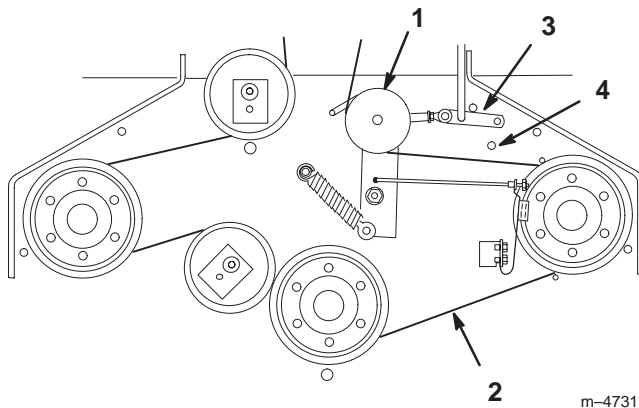
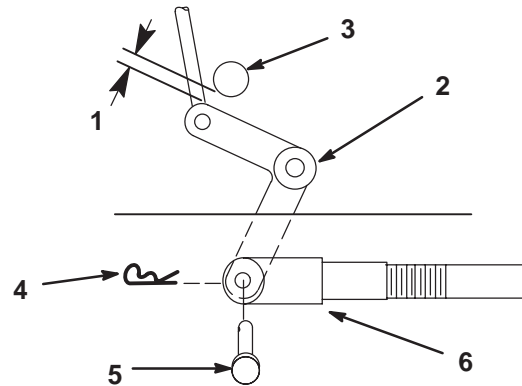

Figure 45
Figure 46
3. Remove mower belt (Fig. 45).
7. Install the mower belt (Fig. 45).
3. Remove idler pulley and then remove worn belt (Fig. 45).
Note: Proper belt tension is 10–15 lbs. with the belt deflected a 1/2" (13mm) halfway between pulleys (Fig. 45).
9. Disengage the PTO. If the assist arm does not contact the front stop on the mower deck (Fig. 45), readjust the clevis to bring the bellcrank closer to the transmission output shaft (Fig. 46).
7. Engage PTO lever and check the clearance between the bellcrank and the transmission output shaft (Fig. 46). Space should be 1/16" (2mm)–1/8" (3mm).
8. Remove hairpin cotter and clevis pin from bellcrank. Rotate clevis clockwise on rod to increase or counterclockwise to decrease clearance (Fig. 46).